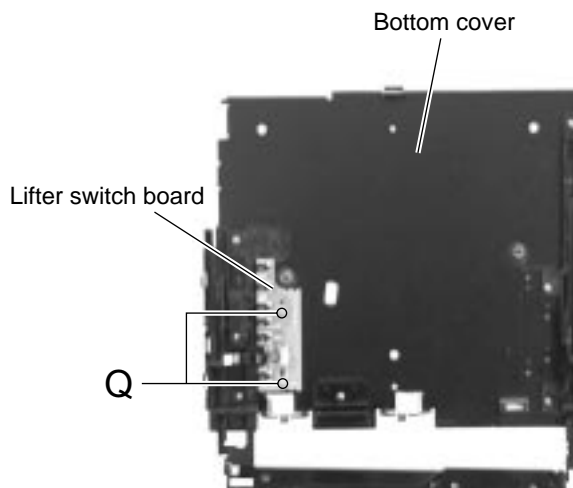

Fig.16
■ Removing the lifter switch board (See Fig.16)